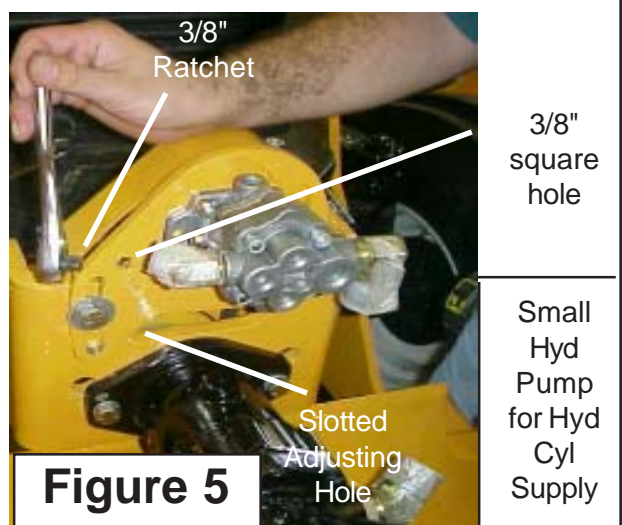

Figure 5
13. Adjust the Belt Tension. Look on the mount plate you will see a 3/8" square hole above the slotted hole (See Figure 5). Using a 3/8" drive ratchet in the 3/8" hole pull up on the ratchet until the belt is adjusted. Do not over tighten the belt, it should be tightened to firm. Holding the tension on the belt tighten the mounting bolts. You may need to get someone to help you with this. DO NOT over tighten the Drive Belt as it could damage the pump. (See Figure 6)